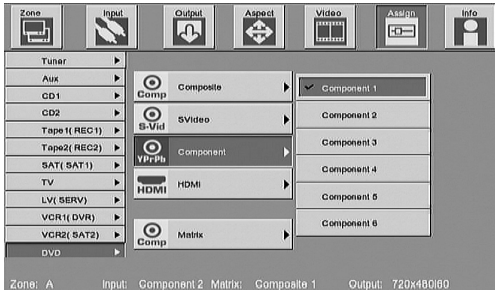

Figure 8
- Press the SELECT Push-button and a ✓ check mark will appear to the left of the title name to indicate the selection is entered into memory. Refer to figure 8.